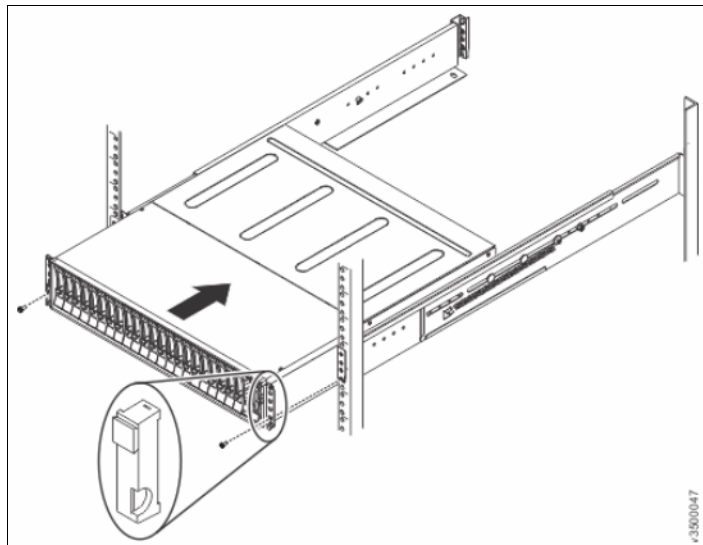

Figure 6-5 Inserting the control enclosure in the rack
3. Slide the control enclosure into the rack until it is fully inserted. See Figure 6-5.